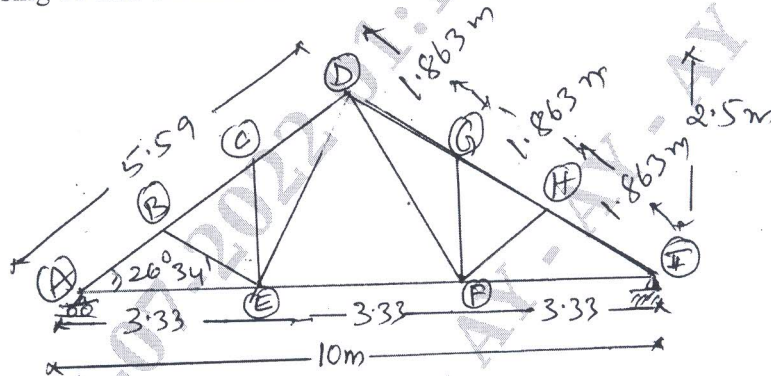

Fig.Q3
- 3 Design the top Chord member and bottom chord member and the diagonal member DE of the roof truss shown in Fig.Q3. The design forces (factored) are given in table. Also design the joint 'A' using 16 mm dia bolts of class 4.6 bolts.